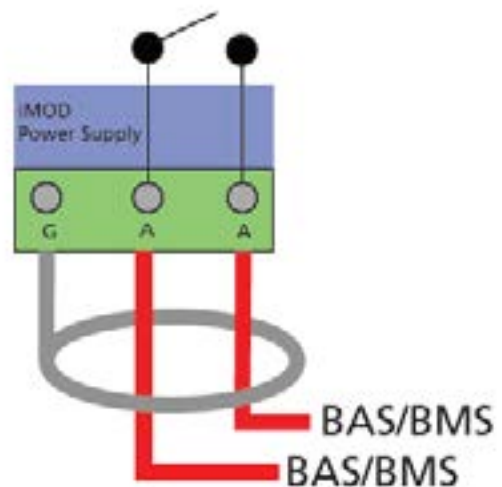

Figure 5
Refer to FIGURE 5.
Integral alarm “dry” contacts will close when the system is on and operating properly. To tie into the BMS/BAS for remote monitoring, use 18/2 twisted pair, SHIELDED, plenum rated cable and connect to the “BAS Alarm” contact terminals inside the GPS-iMOD power supply. Connect the cable shield to the “BAS Alarm” ground contact (G) shown in FIGURE 5. The terminal block may be removed for ease of wiring.